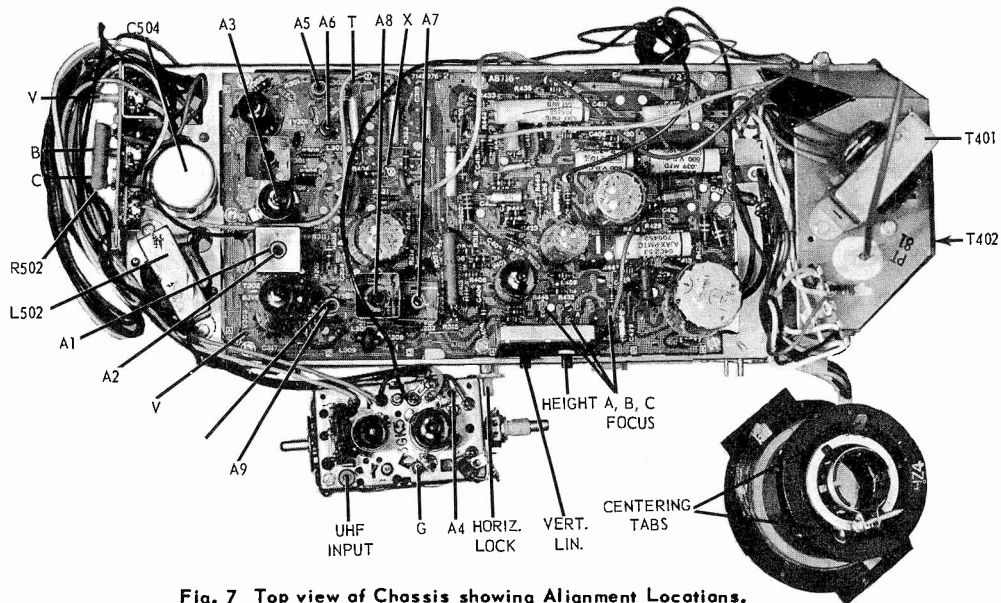

Fig. 7 Top view of Chassis showing Alignment Locations. Dashed lines indicate adjustment nearest chassis.
Connect isolation transformer between AC line and receiver. Connect negative of 6 volt bias supply to test point "T" (IF AGC) and "X" (RF AGC), positive to chassis. See figure 7.
Set VHF Channel Selector on channel 12. Connect negative of -6 volt bias supply to test point "T" (IF AGC) and -1.75 volt to test point "X" (RF AGC) positive to chassis. See Fig. 7. Connect isolation transformer between AC line and receiver. Allow about 15 minutes for receiver and test equipment to warm up.
1. Tune in normal picture on strongest TV station. Allow about 15 minutes for set to warm up. See figure 7 for adjustment locations.